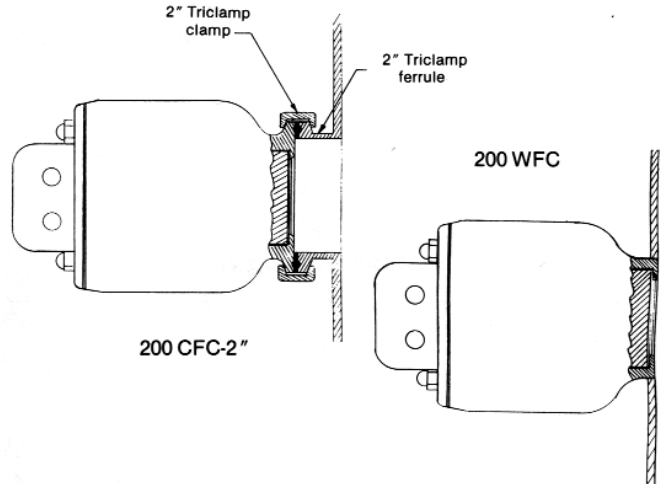

Figure 3
**MODEL 200 SENSORS (Figure 3)**